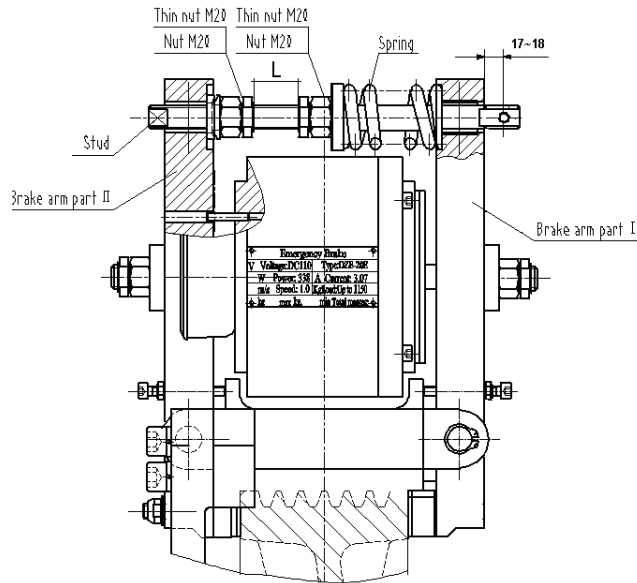

Figure 17
6. Measure the distance between the center hole of Stud and Brake arm part I (17mm~18mm). See Figure 17.
7. If the distance is too small, write down the two (2) thin nut's distances (L); loosen the thin locknut’s M20 and nut M20 with a 30mm open end wrench to free the spring. See Figure 17